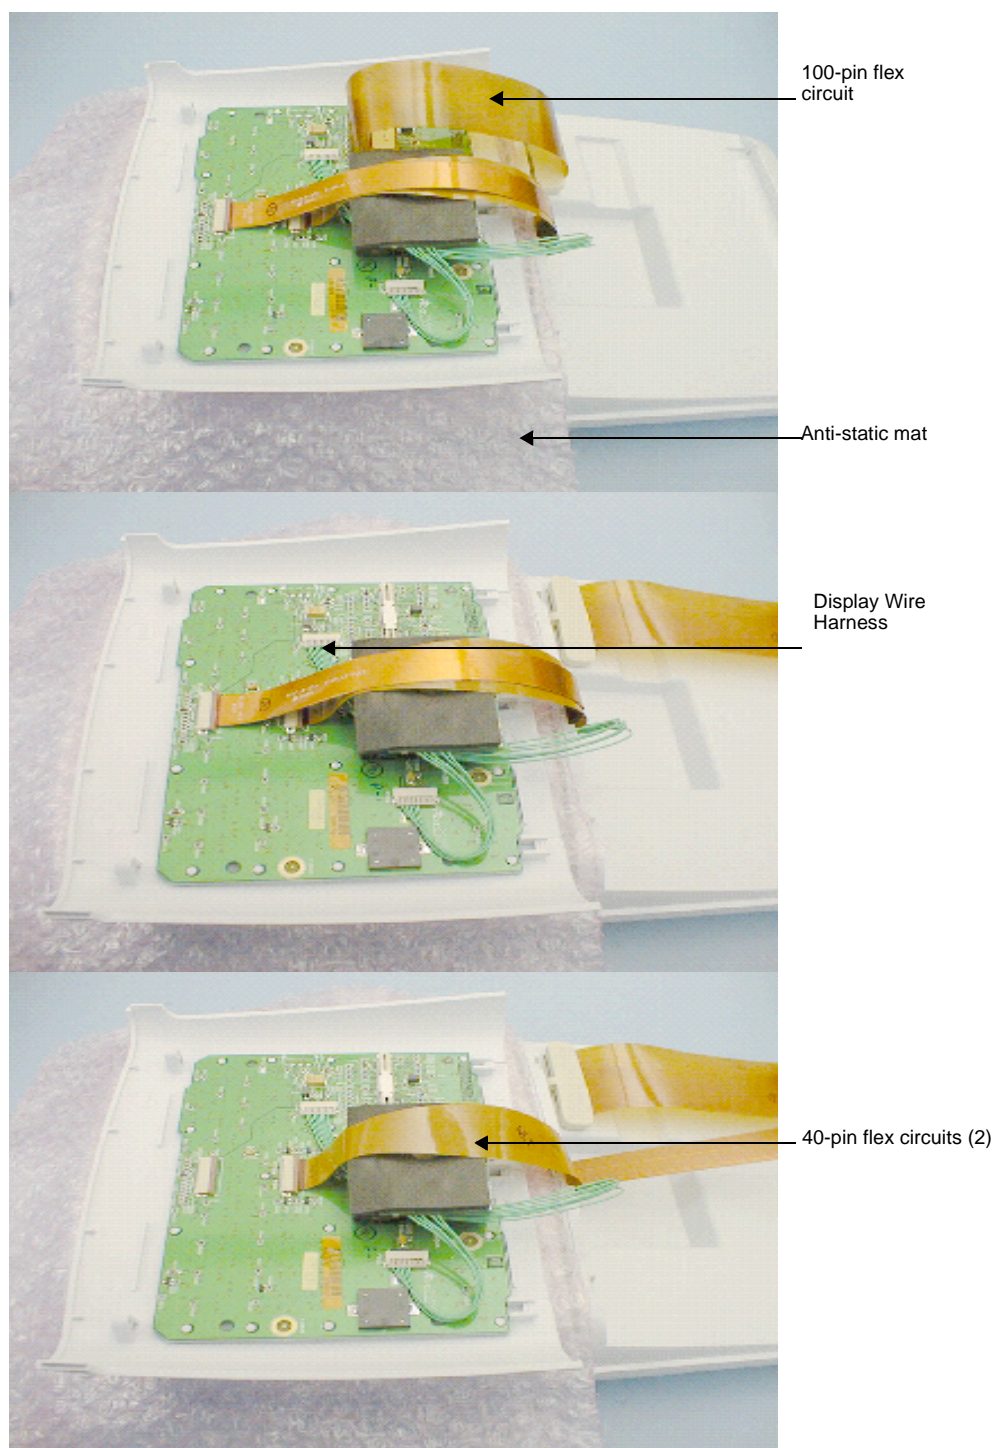

Figure 7.7 Disconnecting the Control Panel
- 6.** Disconnect the Display Wire Harness and the two 40-pin flex circuits from the Control Panel (Figure 7.7).
3. Replace the 100-pin flex circuit on the bottom module (Figure 7.7).